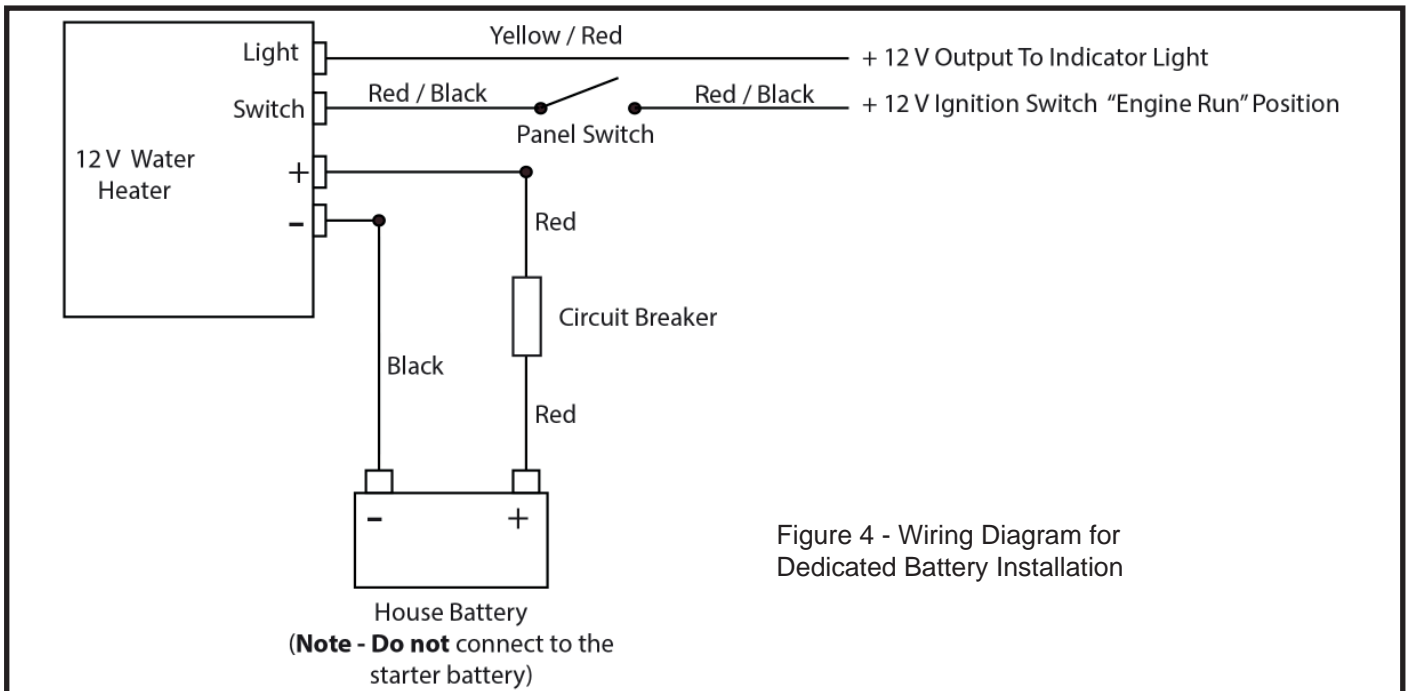

Figure 4 - Wiring Diagram for Dedicated Battery Installation
**NOTE:** Electrical wiring must comply with the wiring diagram (Figure 4). **The switch must be connected to the 12 V ignition switch in the engine run position to ensure the heater is only operational when the engine is running.**